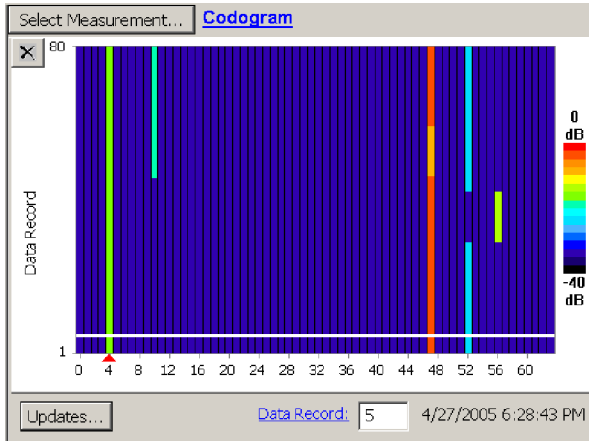

Figure 3-60: 1xEV-DO codogram display
4. Tap **Codogram**. See Figure 3-60.